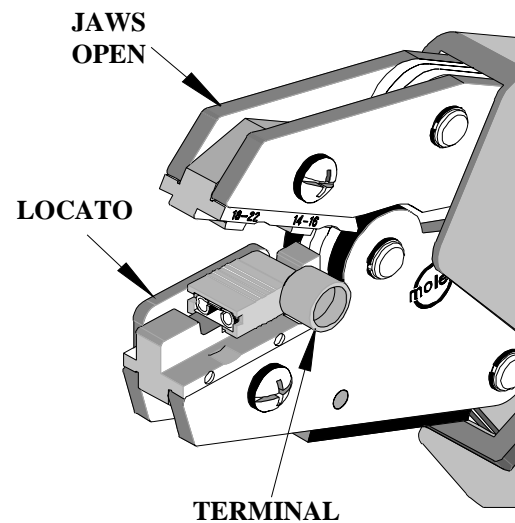

Figure 1
1. Place the flag terminal barrel into the conductor anvil of the lower jaw. Make sure the closed end of the barrel is touching the locator. (See Figure 1).